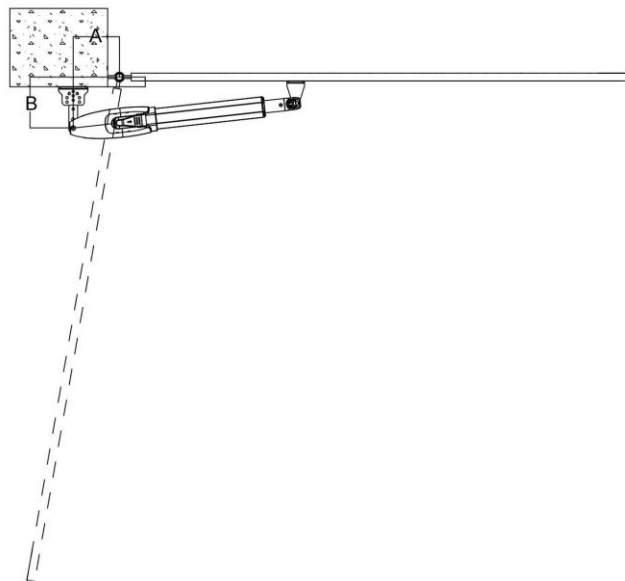

Figure 2
- To allow both arms to close in the limit position, install the supplied rubber gate stop in the limit closing position (as shown in figure 2). Similarly, when the gate opens inwards, install a gate stop in the limit closing position (as shown in figure 2).